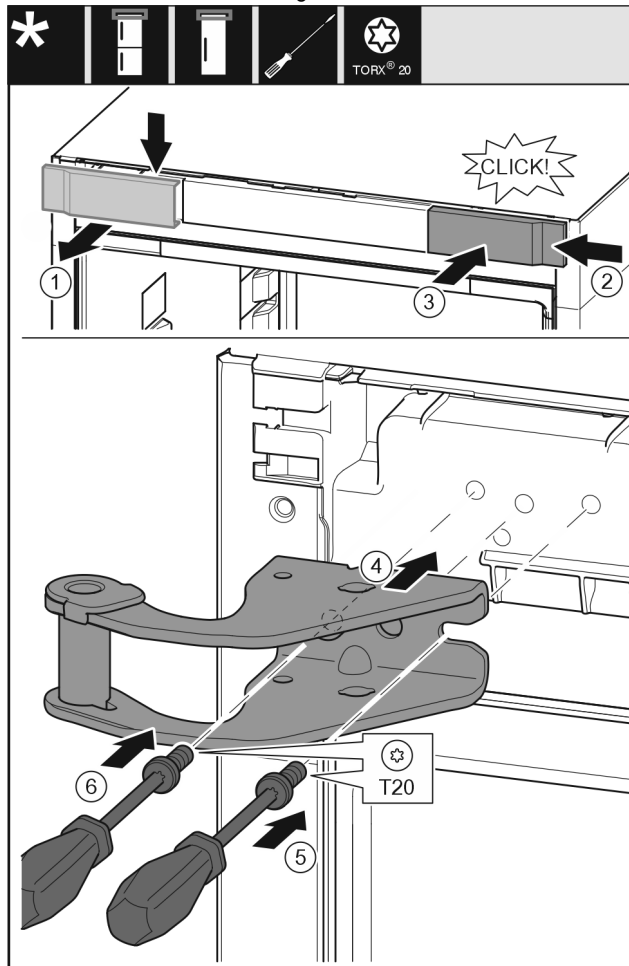

Fig. 14
- ▶ Take off the cover to the front from above. Fig. 14 (1)
- ▶ Rotate the cover 180° and clip onto the other side from the right. Fig. 14 (2)
- ▶ Latch the cover into place. Fig. 14 (3)
- ▶ Position the upper bearing bracket. Fig. 14 (4)
- ▶ Insert the screw with a T20 screwdriver and tighten it. Fig. 14 (5)
- ▶ Insert the screw with a T20 screwdriver and tighten it. Fig. 14 (6)